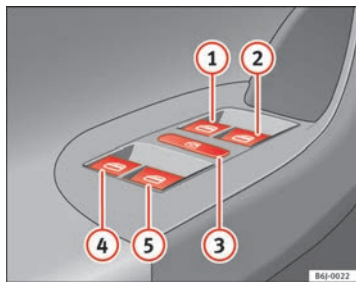

Fig. 49 Detail of the driver door: controls for the front and rear windows
Buttons ⇒ page 86, fig. 49 ①, ②, ④ and ⑤ have two positions for opening windows and two for closing them. This makes it easier to open and close windows to the desired position.